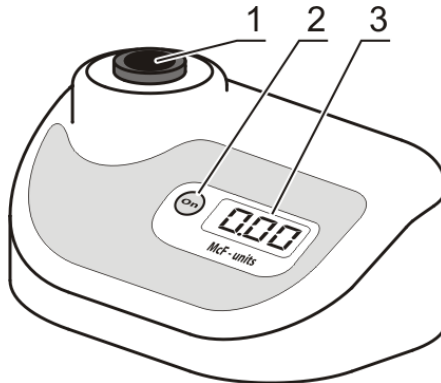

Figure 2. Front view
- Check if the A-16 adapter is in the socket (fig. 2/1). The device is calibrated for operation with the glass tubes 16 mm in external diameter. To use different tubes, recalibrate the unit, see the **Calibration** section of the manual.
5.3 The following indication may be shown on the display (fig. 2/3):
Note. The display of **DEN-1B** switches off if the socket is empty for longer than one minute. Press the **On** key (fig. 2/2) to activate the unit.
5.6 Insert the tube into the socket of densitometer (fig. 2/1). The McFarland value for the solution will be shown on the display (fig. 2/3).
- 6.6.2 **Transparent standard.** Display shows $\square.\square\square$ indication. Insert standard for **0.00** value into the socket (fig. 2/1) of the unit. If the standard for 0.00 value is not available, fill the tube (of the kind that is used for operations) with distilled water. Use the tube as the **0.00** value standard. Press **Install** button to save transparent standard value. Display shows next required calibration value.
- 6.7 **Common calibration rules.** Display shows indication of necessary calibration value. Insert the necessary standard into the socket (fig. 2/1) of the unit and press the **Install** button to save the value for current standard.